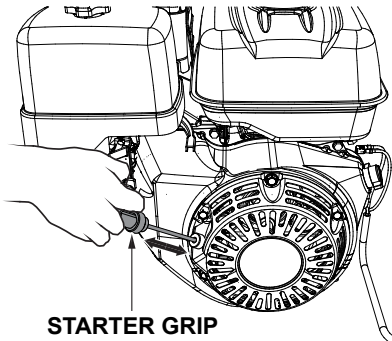

Figure 24. Starter Grip
- Slowly pull the starter grip (Figure 24) until resistance is felt, then pull briskly and smoothly to start the engine. Gently return the starter grip to its original position.